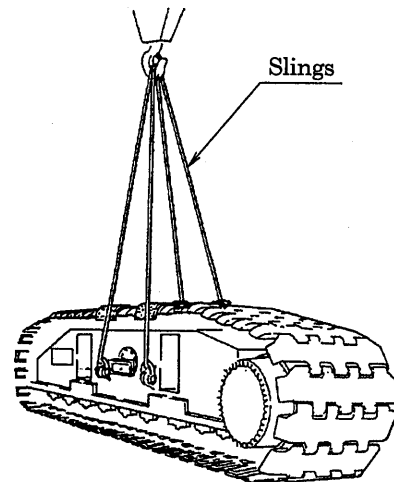

Fig. 11-31
- (3) Slightly lift off the crawler, and check that the machine will not turn over.
- (4) For smoother sliding of the crawler, apply grease to the upper face and side face of the axle.
- (5) Lift the crawler with the slings and the hook. When lifting, use protective material to prevent the crawler from being caught in between the shoes. To remove slack in the shoes, raise the lower side of the shoes with a chain block. (Fig. 11-31)